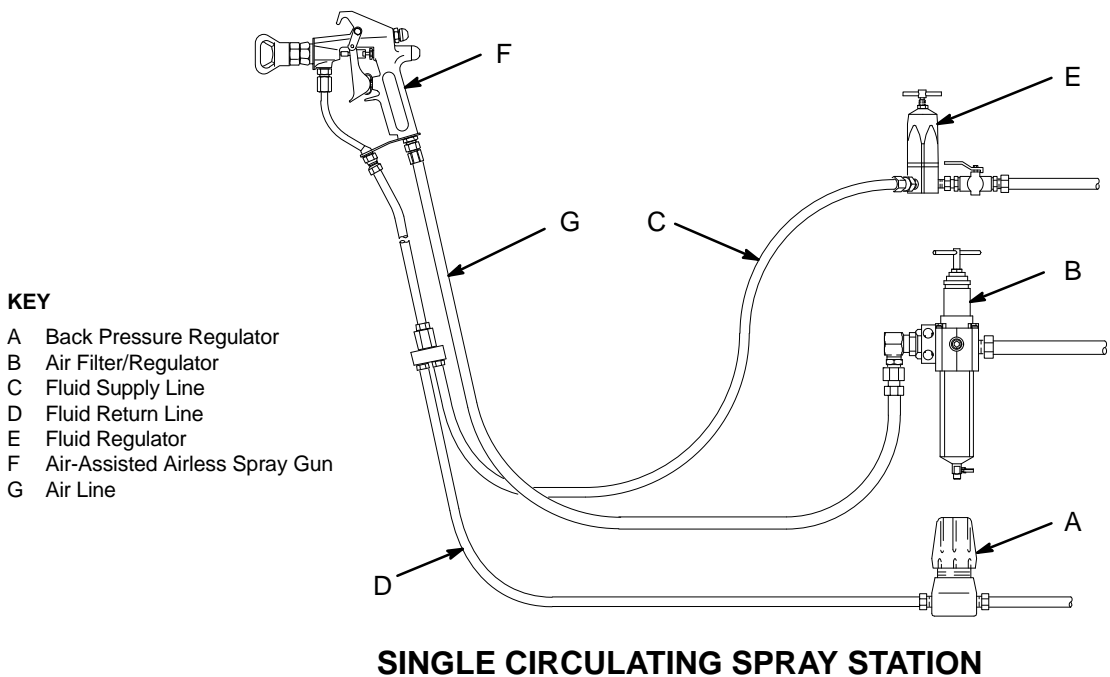

Fig. 1
The Typical Installations shown in Figs. 1 and 2 are only guides in designing a system. For assistance in designing a system to meet your needs, contact your Graco distributor.
1. Install the back pressure regulator (A) in the spray gun return line (D). See Figs. 1 and 2.